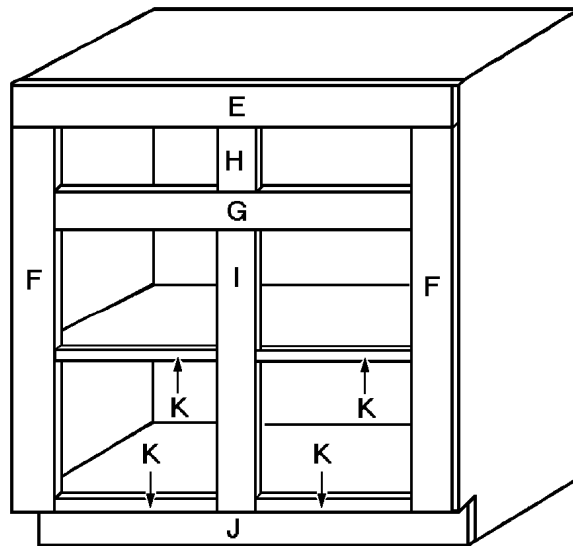

Figure 4
The front of the cabinet consists of rails (horizontal members) and stiles (vertical members). These members fulfill two functions: they support the cabinet doors, and they form the finished front. A diagram of their placement is shown in *Figure 4*. It is very important that you install each of the stiles and rails so that they are all exactly square, or your drawers and cabinet doors will not fit properly.
1. Cut one 35-1/2”-long top rail (E) from 1 x 4 pine. Using glue and two finishing nails on each end, attach the top rail (E) flush with the top edges of the cabinet sides (A), as shown in *Figure 4*.
2. Cut two side stiles (F) from 1 x 4 pine, each 30-1/4” long, and attach them to the cabinet sides (A) below the top rail (E). Use glue and 3-penny finishing nails, spacing the nails about 6 inches apart. As shown in *Figure 4*, the stiles should be flush with the outer edges.
- Cut one 28-1/2"-long center rail (G) from 1 x 4 pine, and attach it 4 inches below the top rail (E), between the two side stiles (F). After applying glue, toenail the center rail (G) into the side stiles (F) using two finishing nails on each end.
- From 1 x 4 pine, cut one 4"-long upper center stile (H) and one 22-3/4"-long lower center stile (I).
- Attach the upper center stile (H) between the top rail (E) and the center rail (G), as shown in *Figure 4*. Apply glue, and toenail the center stile (H) into the top rail (E) and the center rail (G), placing two finishing nails at each end. The lower center stile (I) is attached to each of the shelves (C). Make certain that both of the shelves (C) are perfectly level in the center. Use glue and two finishing nails to attach the lower center stile (I) to each of the shelves (C). Glue and toenail the lower center stile (I) to the center rail (G).
- Cut a 35-1/2" length of 1 x 4 pine. Rip the length to 3 inches in width, and attach the resulting bottom base piece (J) across the bottom edge of the assembled cabinet so that it covers the raw, bottom edges of the cabinet sides (A), as shown in *Figure 4*. To secure the attachment, first glue all of the exposed joints. Then use two 3-penny finishing nails to toenail the bottom base piece (J) to the lower center stile (H). Next, with two finishing nails on each end, attach the bottom base piece (J) to the edges of the cabinet sides (A). Finally, nail through the lower cabinet shelf (C) into the bottom base piece with finishing nails placed about 6 inches apart.
- Cut four shelf trim pieces (K) from 1 x pine, each 12-1/2" long. Use glue and finishing nails placed every 6 inches to attach the shelf trim (K) to the exposed fronts of each of the shelves (C) between the stiles (F and I).